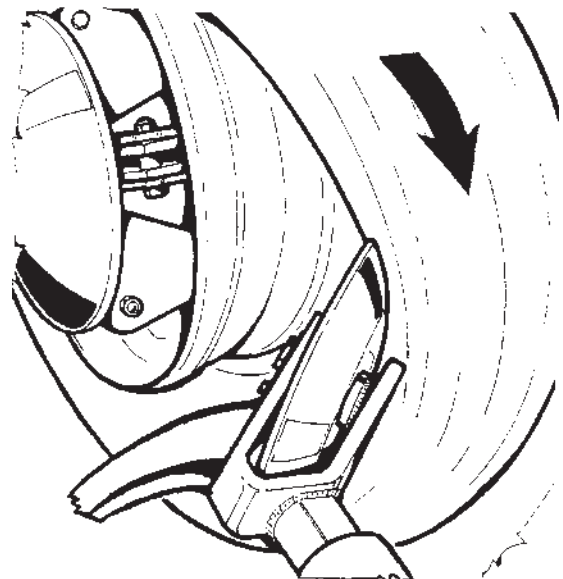

Fig.32
5. When breaking the inner bead be sure not to damage the valve stem (Fig.32).